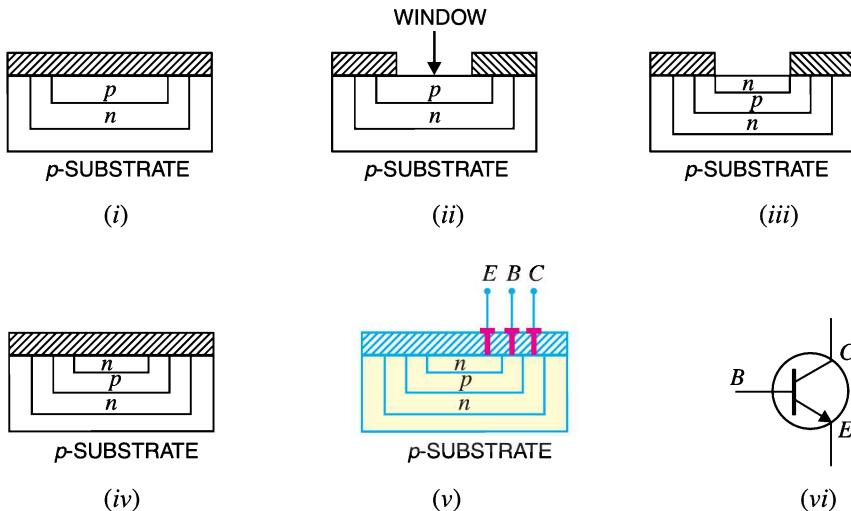

Fig. 23.7
**(ii) Transistors.** Transistors are formed by using the same principle as for diodes. Fig. 23.7 shows how a transistor is formed on a portion of the substrate of a monolithic IC. For this purpose, the steps used for fabricating the diode are carried out upto the point where *p* island has been formed and sealed off [See Fig. 23.5 (vi) above]. This Fig. is repeated as Fig. 23.7 (i) and shall be taken as the starting point in order to avoid repetition.
A window is now formed at the centre of  $SiO_2$  layer, thus exposing the *p*-epitaxial layer as shown in Fig. 23.7(ii). Then we pass pentavalent atoms through the window. The pentavalent atoms diffuse into the epitaxial layer to form an island of *n*-type material as shown in Fig. 23.7 (iii). The  $SiO_2$  layer is re-formed over the wafer by passing pure oxygen [See Fig. 23.7 (iv)]. The terminals are processed by etching the  $SiO_2$  layer at appropriate locations and depositing the metal at these locations as shown in Fig. 23.7 (v). In this way, we get the integrated transistor. Fig. 23.7 (vi) shows the electrical circuit of a transistor.